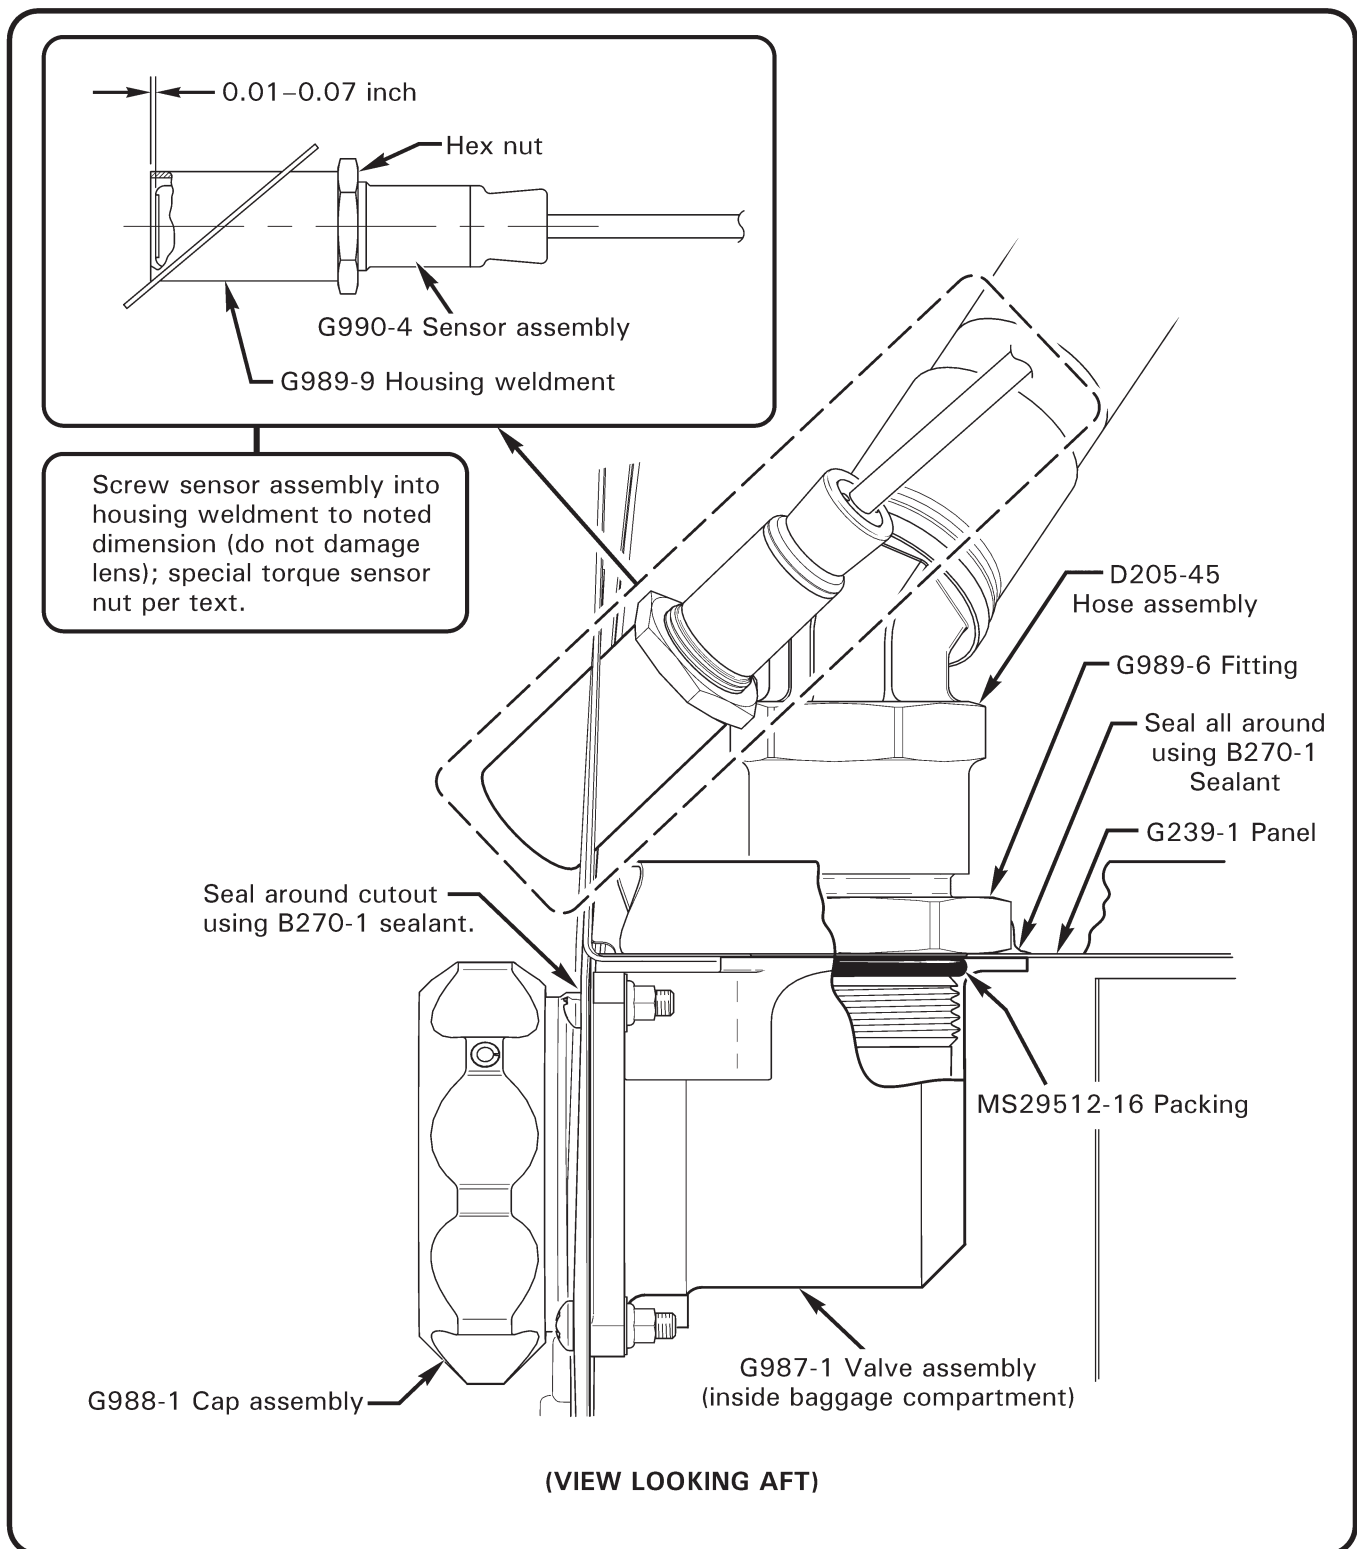

FIGURE 28-9 PRESSURE FUEL PORT
4. Refer to Figure 28-9. Using backup wrench, disconnect D205-45 hose assembly from G989-6 fitting. Cap hose.
1. Refer to Figure 28-9. Open baggage compartment door and right-side engine cowling door. Remove G988-1 cap assembly and position G987-1 valve assembly between G239-1 panel and aft cabin skin. Install hardware securing valve to skin and firewall; verify security.
2. Refer to Figure 28-9. Cut and discard ty-raps as required and disconnect G990-4 sensor assembly wire harness from airframe harness at connectors.
2. Refer to Figure 28-9. Screw G990-4 sensor assembly into G989-8 housing weldment to noted dimension (use care when measuring with calipers not to damage lens). Special torque sensor hex nut to 60 in.-lb.